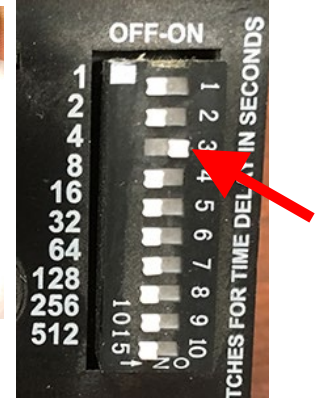

Figure 23
26. Ensure the #3 switch on the time delay relay is in the ON position (see Figure 23).